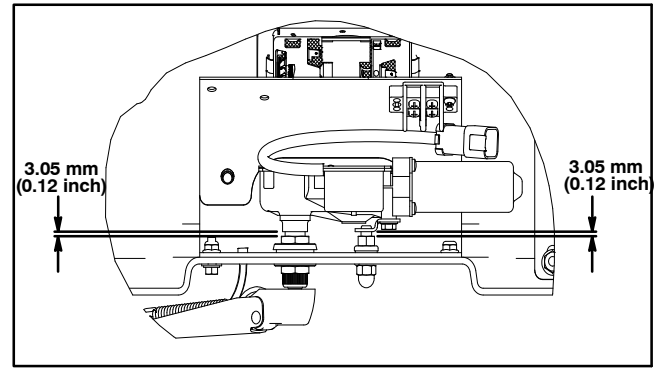

Figure 44
1. Locate the nuts on the studs at the dimensions shown before assembling the wiper motor into the console (Fig. 44).